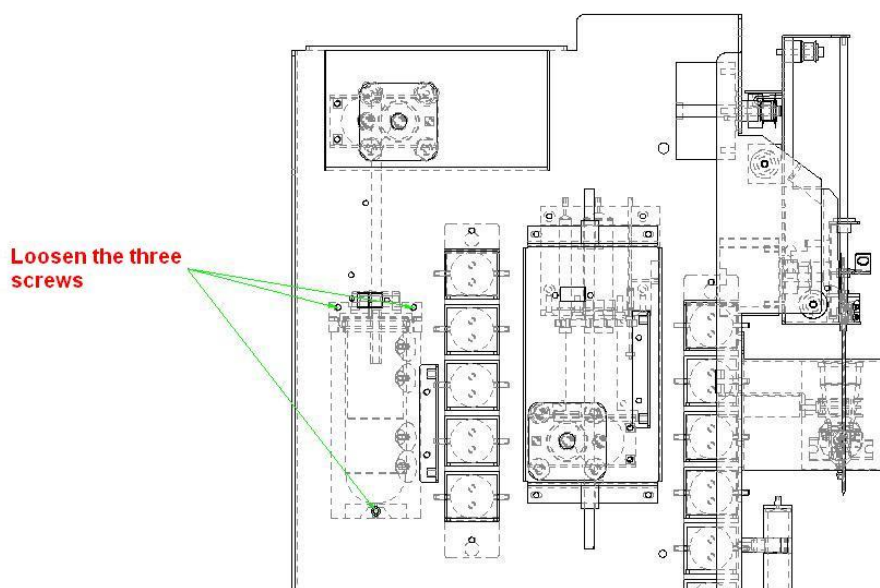

Figure 5-3 Disassembly the pressure syringe
- 1) Pull the piston of the pressure syringe to extreme position, then loosen the three screws which fix the syringe, disassemble the body of the pressure syringe from the inside board, as figure 5-3: